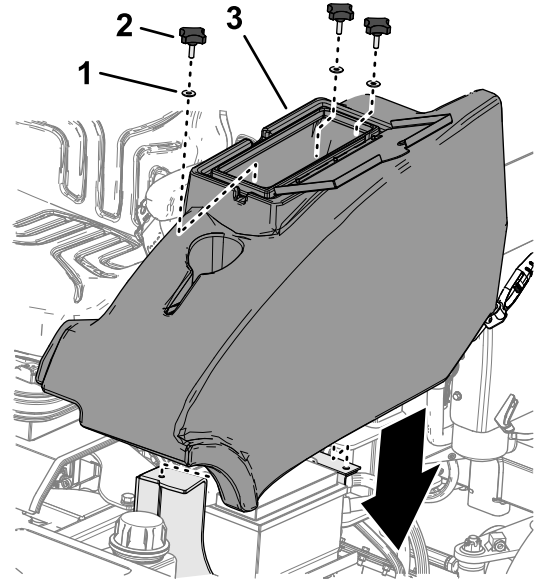

Figure 11
2. Assemble the storage compartment to the machine with the 3 knobs and 3 washers (Figure 11).